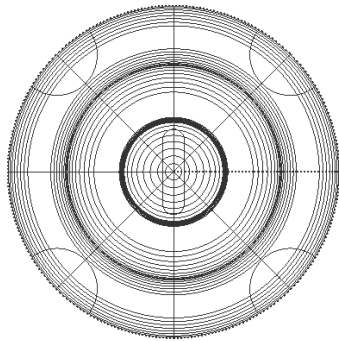

Figure 7-57 Curves-on-surface generated on the base feature
12. Choose the **Go** button; the selected curves are projected on the base feature and curves-on-surface are generated, as shown in Figure 7-57.